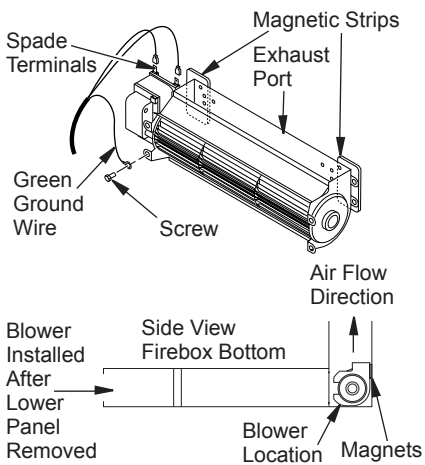

Figure 14 - Blower Model BK
1. Be certain that all wire terminals are securely attached to terminals on blower motor and that the screw retaining the green ground wire is tight (see Figure 14).
2. Place blower against lower rear wall of firebox outer wrapper with exhaust port directed upward. Depending on your model, you may have to carefully route the blower assembly past controls and brackets and position blower inside back opening. The blower will be held in position against the back wall by magnets incorporated onto blower housing (see Figure 14).